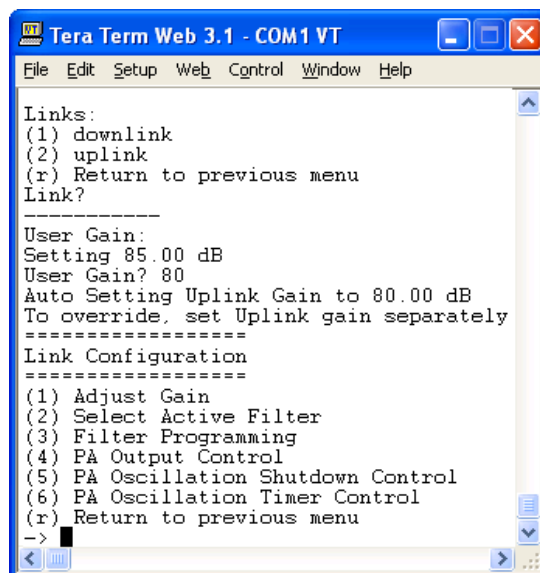

Figure 4-9: User Gain
Selecting option **(1) downlink** in the **Links:** menu displays the current user gain, Figure 4-9.